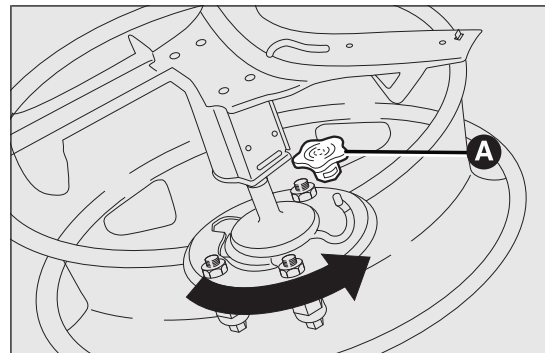

fig. 137
- ☐ Fix the toothed support on the wheel by means of two screws (insert in the outer wheel support). Refit the restraining metallic wire in the seat and refit the protective cap A fig. 137;